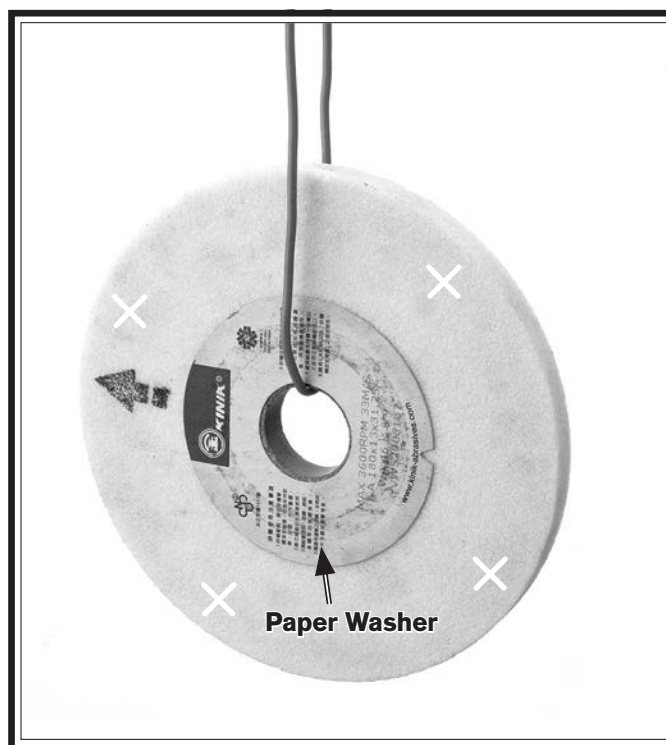

Figure 20. Ring test setup and test locations.
2. Hang the wheel in the air with a piece of cord or string looped through the hole in the center, as shown in **Figure 20**.
3. At the locations shown in **Figure 20**, gently tap the wheel with a light non-metallic device such as the handle of a screwdriver or a wooden mallet.